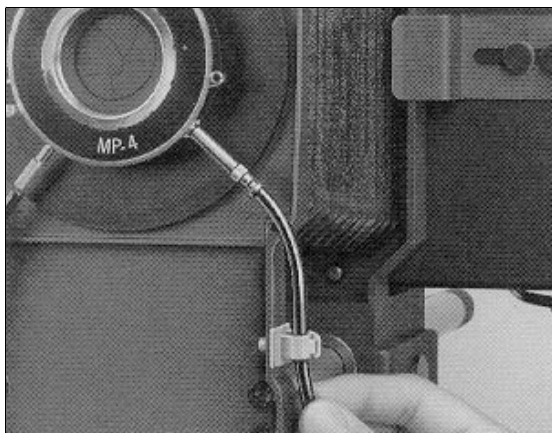

Figure 2-27. Attaching Cables to Clamps
d. Fit the cable releases into the clamps (figure 2-27). This will prevent damage to the shutter if the cable is accidentally pulled.